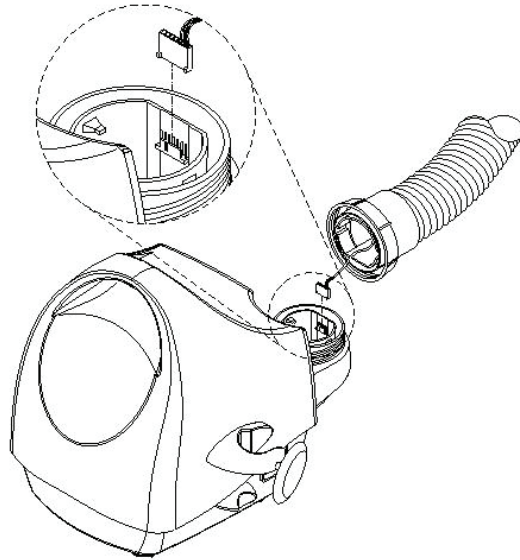

Figure 3. Hose replacement
5. Using the needle-nose pliers, carefully detach the cable connector from the header plug located inside the hose connector. See Figure 3.